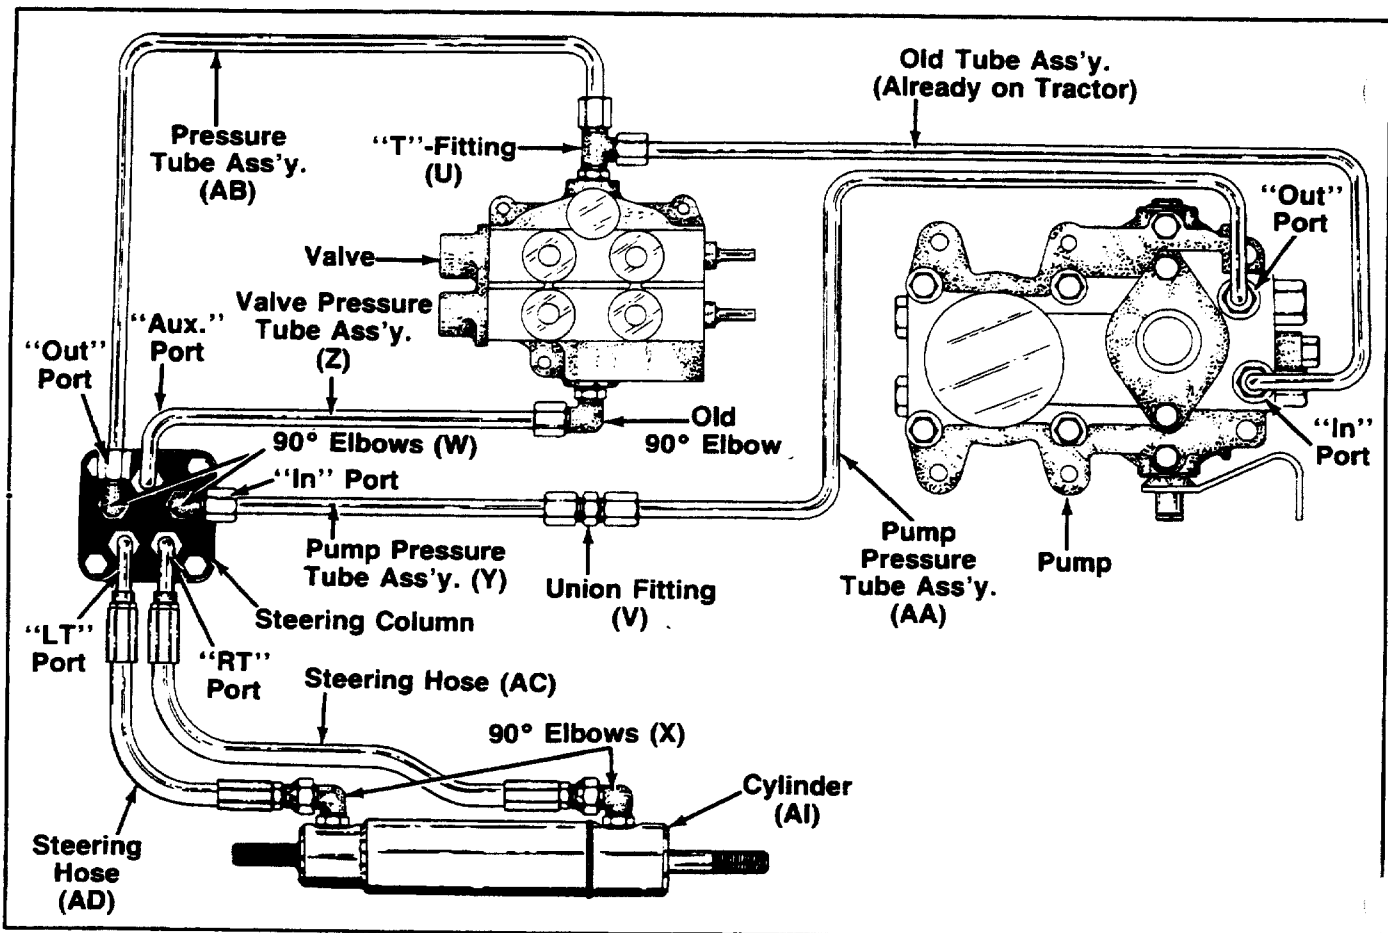

FIGURE 25.
10. Installation of hydraulic lines. (For reference see figure 25.)